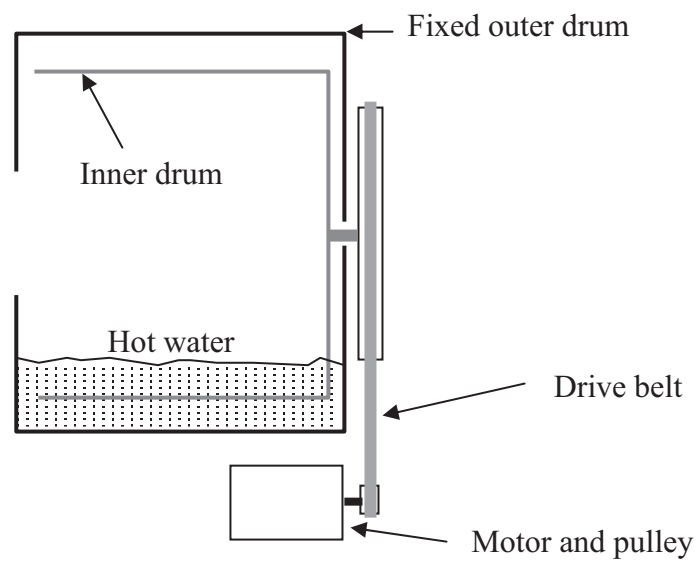

Figure 2
7. A washing machine contains an electric motor which turns an inner drum, inside a fixed outer drum. Figure 2, illustrates this.
(c) Name **one** suitable material for producing drive belts, such as that shown in Figure 2, and justify your choice of material.